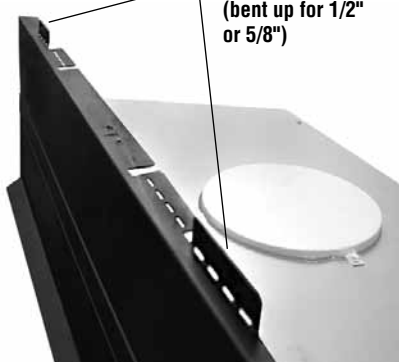

Figure 10
7. Remove the 4 screws on top, and install the top standoff with the 4 screws (**Figure 10**).
IMPORTANT! Before installing the fireplace, install the top standoff on the top front edge of the fireplace using the 4 existing screws on the fireplace top (see Figure 10). Then, bend up the applicable drywall backstops on the top standoff (1/2" or 5/8"), based on the thickness of the drywall/finish material to be used (see Figure 10).